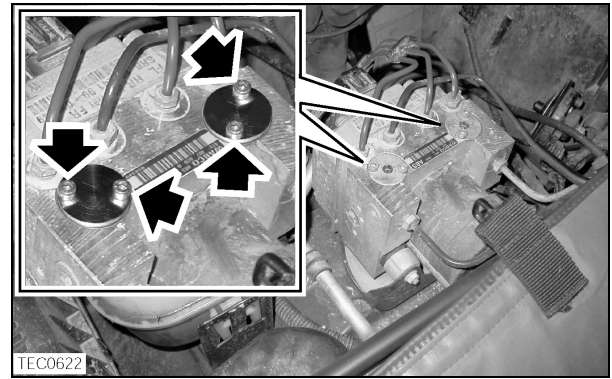

Fig. 5
5. Install new Allen screws (arrowed in Fig. 5) and tighten to 6 Nm (4 lb.ft).